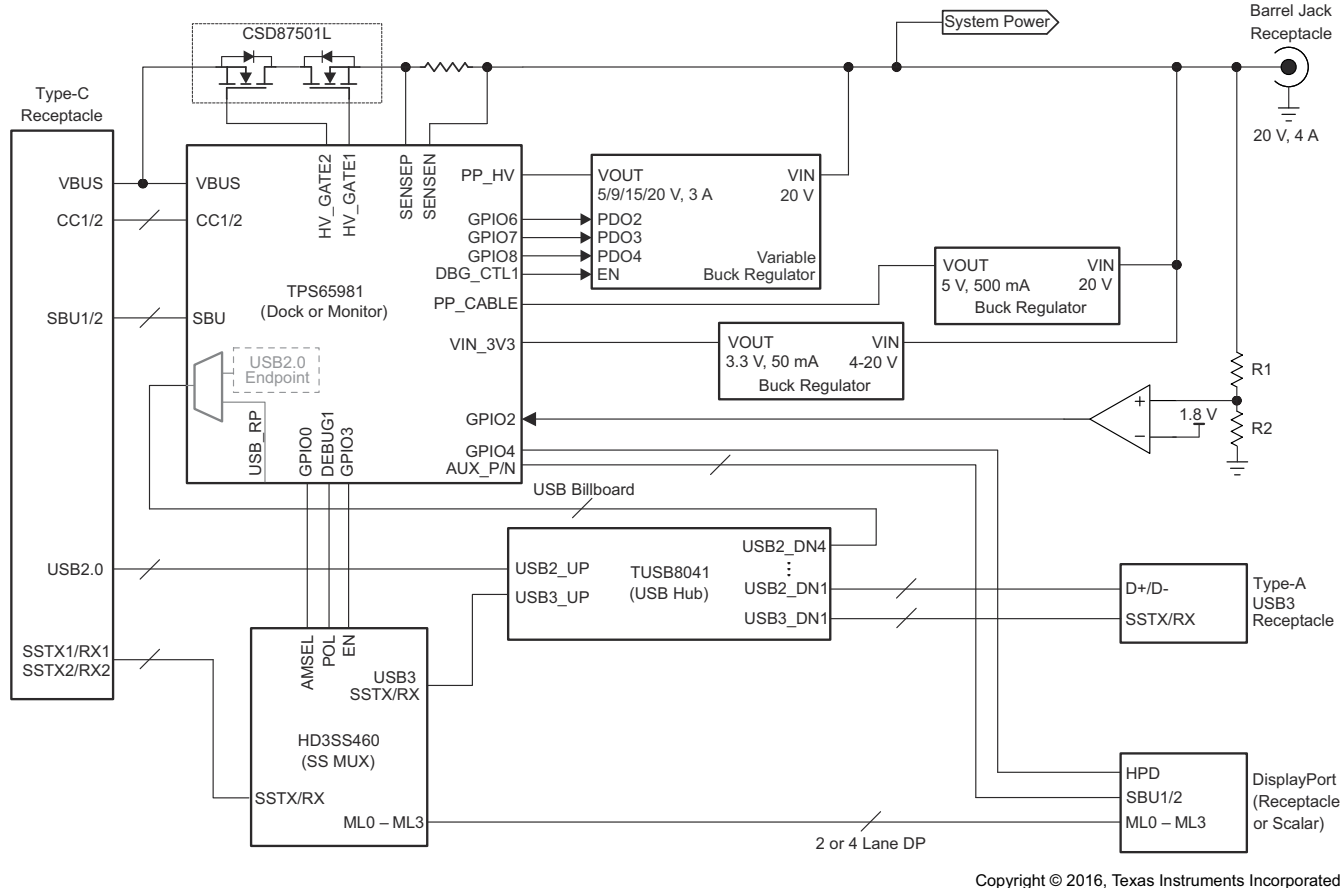
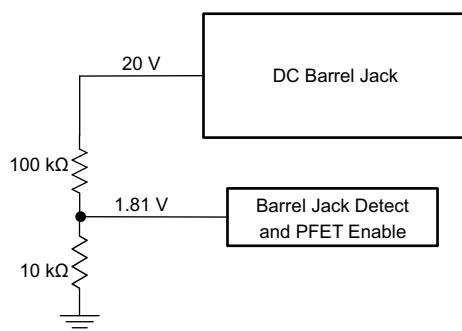
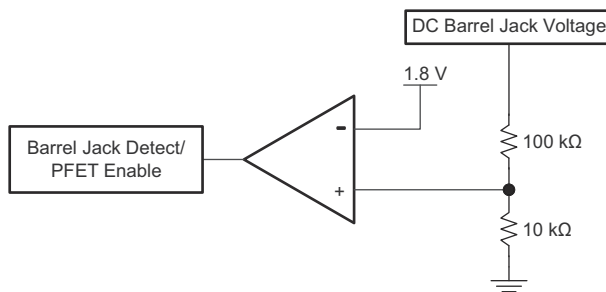
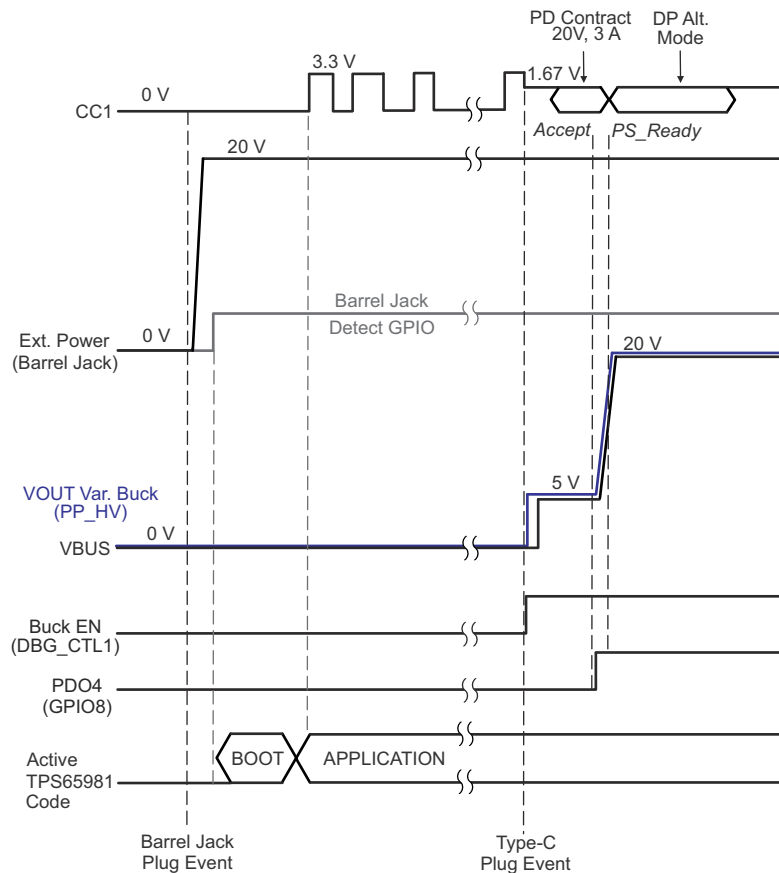

Figure 10-3. Type-C and PD Dock or Monitor Application
Figure 10-4. DC Barrel Jack Voltage Divider
Figure 10-5. Barrel Jack Detect Comparator
Figure 10-6. TPS65981 Variable Buck Regulator in Dock or Monitor Application Timing Diagram
The TPS65981 controls two separate power paths making it a flexible option for Type-C and PD dock application that simultaneously charges a USB PD DisplayPort video source (for example, a notebook computer). The dock or monitor application of the TPS65981, shown in Figure 10-3, uses a GPIO to sense when a power supply is present on the system-side of the TPS65981. When external power is applied from an AC-DC power supply first, the TPS65981 shall be configured to automatically attempt to become the USB Type-C or PD power source. When a notebook computer or other USB PD source is connected first and the AC-DC supply is not present, the dock or monitor supports booting from VBUS in No Battery Mode, provides power to the SPI Flash to load application code, and can optionally power the entire system by enabling the PP_EXT path as a sink. If the AC-DC power supply is applied at a later time, the TPS65981 will detect the new power supply, automatically enable one of more Source PDOs, and initiate a Power Role Swap PD message to offer power to the system at the far-end of the Type-C cable. Refer to Figure 10-6 for a timing diagram of the GPIO-controlled variable buck regulator voltage output at PP_HV and the voltage at VBUS during a Type-C connection and throughout an initial USB PD power negotiation where the dock or monitor is the power source. The video receptacle can be DisplayPort, HDMI, or VGA although only DisplayPort is shown in Figure 10-3. The dock or monitor application uses a Type-C receptacle and an HD3SS460 SuperSpeed multiplexer that is controlled by the TPS65981. The CC1/2 pins of the TPS65981 will detect cable orientation and automatically configure the HD3SS460 SuperSpeed signal pairs for 2-lanes of USB3 data and 2-lanes of DisplayPort video or 4-lanes of DisplayPort video depending on the Alternate Mode configured by the downstream-facing port (DFP).
The system is design to either operate bus-powered over Type-C/PD or line-powered from the DC barrel jack. The TPS65981 detects that the DC barrel jack is connected to GPIO0n. In the simplest form, a voltage divider could be set to the GPIO I/O level when the DC Barrel jack voltage is present, as shown in Figure 10-4. A comparator circuit is recommend and used in this design for design robustness, as shown in Figure 10-5. Figure 10-3 shows the barrel jack detection circuitry used in the dock or monitor application connected to GPIO2 configured as an input.
The Type-C port in this design supports the 4 standard discrete source voltages in USB PD (5 V, 9 V, 15 V, and 20 V) by adding the LM3489 DC-DC hysteretic PFET buck controller with GPIOs controlled by the TPS65981 that enables the LM3489 and modifies the output voltage that is supplied to VBUS through the internal PP_HV power switch. In Figure 10-3, the enabled (EN) pin of the LM3489 is controlled by DBG_CTL1 which is mapped to the Plug Event GPIO so that whenever a Type-C plug occurs the voltage regulator will generate the 5-V default output voltage for sourcing Type-C and PDO1 power. The default voltage is set by a resistor divider (R_{FB1} and R_{FB2}) with the center tap connected to the feedback pin (FB) of the LM3489. The TPS65981 modifies the output voltage when a high voltage PD contract is negotiated by forcing a GPIO output high and switching in a third resistor in parallel with R_{FB2} in the feedback circuit. In Figure 10-3, GPIO6 indicates a 9-V PD contract (PDO2), GPIO7 indicates a 15-V contract (PDO3), and GPIO8 indicates a 20-V contract (PDO4). The LM3489 was selected because the architecture allows 100% duty-cycle operation, where the only additional power loss in the system is from the $R_{DS,ON}$ of the PFET used in the regulator circuit.